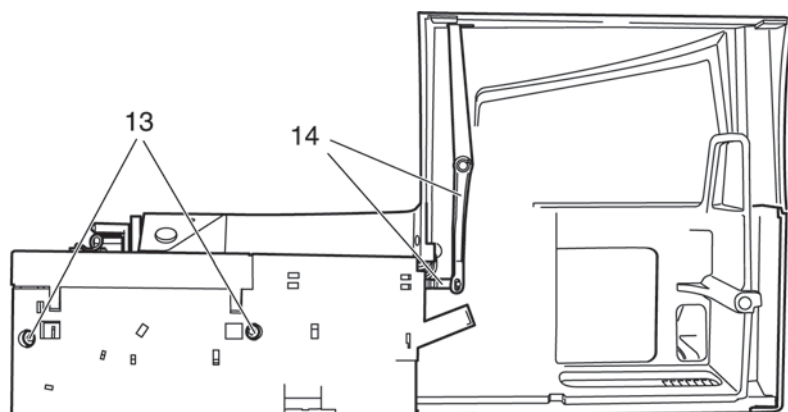

Fig. 31b
- Remove both screws 13 of the free-arm cover (fig. 31b).